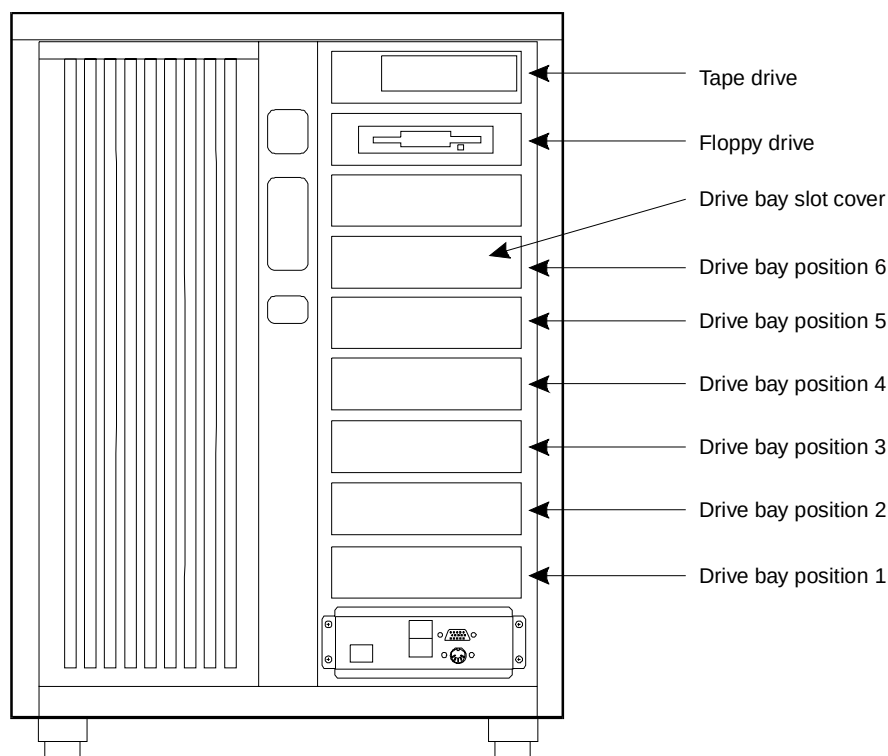

Figure 3-1. Front View of the MAP/100
1. Locate the tape drive on the front of the MAP/100 (Figure 3-1).
1. Locate the diskette drive on the front of the MAP/100 (Figure 3-1).